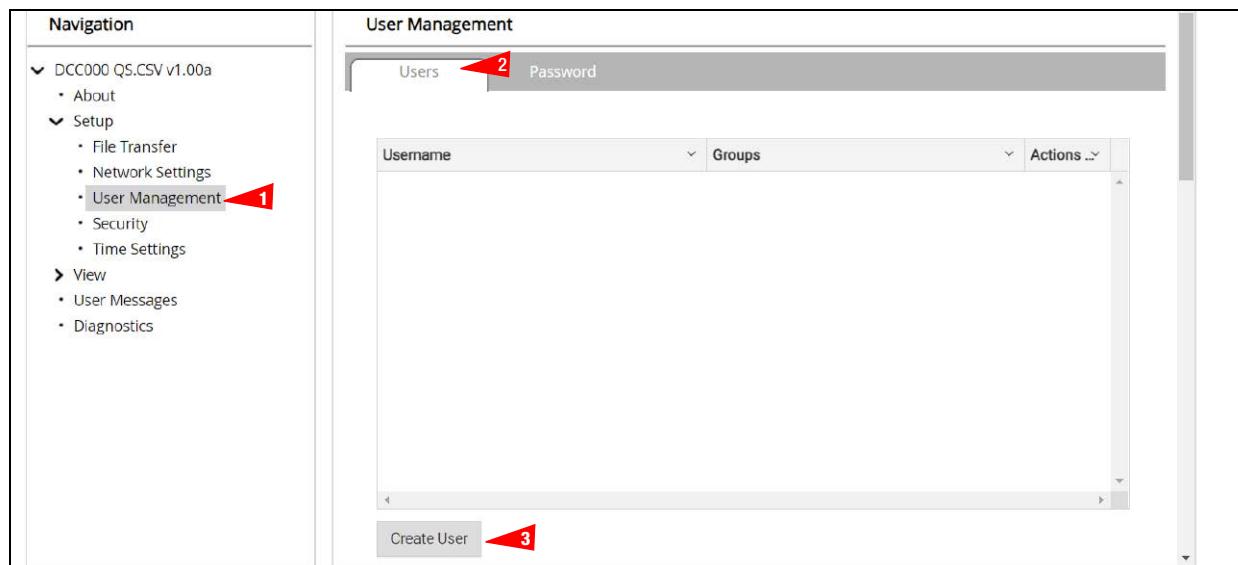

Figure 30. FS-GUI User Management
- Click the **Create User** button (Item 3 in Figure 30).